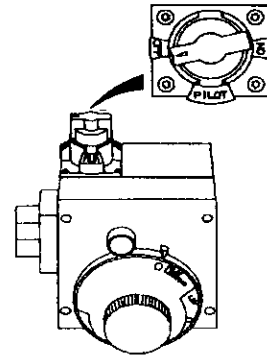
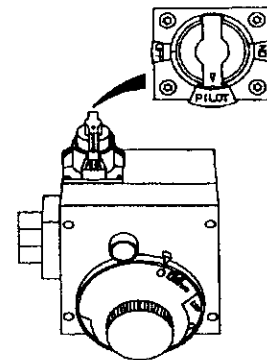
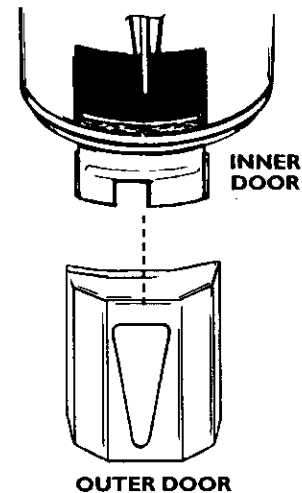

Figure 10
Figure 11
Figure 13
4. Turn gas control knob clockwise () to "OFF" position. Knob cannot be turned from "PILOT" to "OFF" unless knob is depressed slightly. **DO NOT FORCE.** (Figure 10, page 18)
5. Wait five (5) minutes to clear out any gas. If you then smell gas, STOP! Follow "B" in the safety information above on this label. If you don't smell gas, go to the next step.
6. Remove (or open) inner door located below the gas control unit. (Figure 13, page 18)
8. If you don't smell gas, turn knob on gas control counter clockwise () to "PILOT" position. (Figure 11, page 18)
9. Push in control knob all the way and hold down. Immediately light the pilot with a match. Continue to hold control knob in for about one (1) minute after the pilot is lit. Release knob and it will pop back up. Pilot should remain lit. If it goes out, repeat steps 3 through 8.
- If the pilot will not stay lit after several tries, depress and turn the gas control knob clockwise () to "OFF" and call your service technician or gas supplier. (Figure 10, page 18)
10. Replace (or close) inner door. Replace outer door if door does not cover gas control on/off knob or temperature adjustment knob. (Figure 13, page 18)
2. Turn gas control knob clockwise () to "OFF" position. Knob cannot be turned from "PILOT" to "OFF" unless knob is depressed slightly. **DO NOT FORCE.** (Figure 10, page 18)